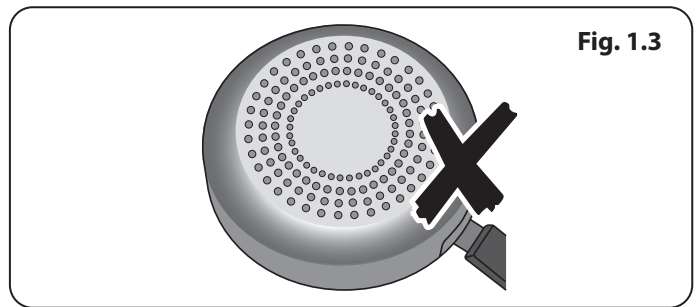

Fig. 1.3
- To fully utilise the power of your induction hob and to ensure longevity of performance, we recommend the use of suitable Induction cookware. If you decide to purchase an alternative set of cookware for use on your induction cooker, we would strongly recommend that composite aluminium cookware with steel inserts, example shown **Fig. 1.3**, are avoided. This type of construction can significantly reduce the lifetime and performance of your induction cook top.